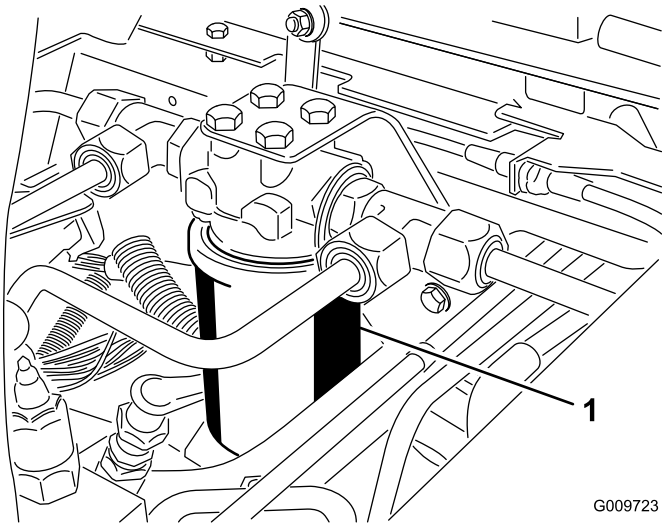
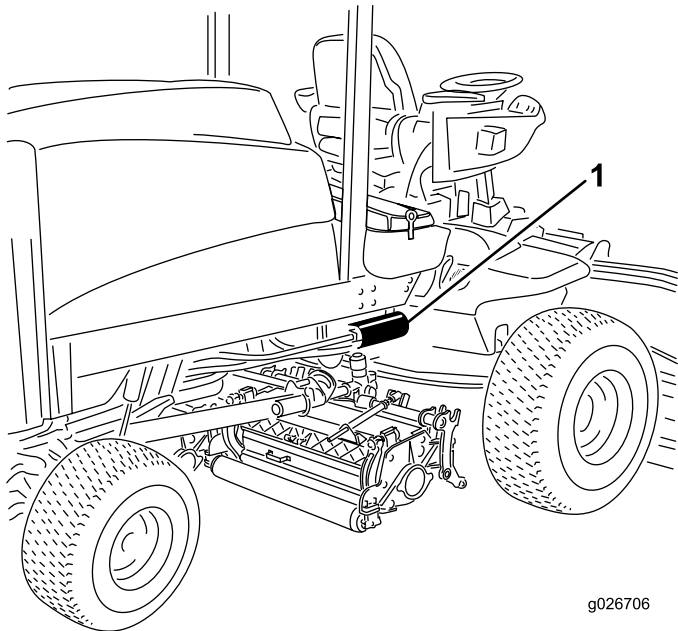

Figure 74
Figure 75
2. Clean the area around the filter mounting area. Place a drain pan under the filter and remove the filter (Figure 74 and Figure 75).